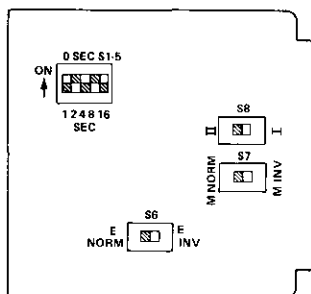

figure 3. Option switch locations
3.05 Four switch options must be set before the 6271 can be placed into service. After these switches are set as described in the following paragraphs, no further alignment of the 6271 is required. The location of each option switch on the module's printed circuit board is shown in figure 3; table 3 summarizes 6271 switch options.